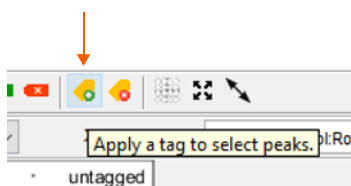

Figure 4-23: Apply a tag toolbar icon.
- Apply an existing tag by selecting **Peak Table > Apply Tag to Selected Peaks or [t]** or click the **Apply tag** icon in the toolbar (Figure 4-23).